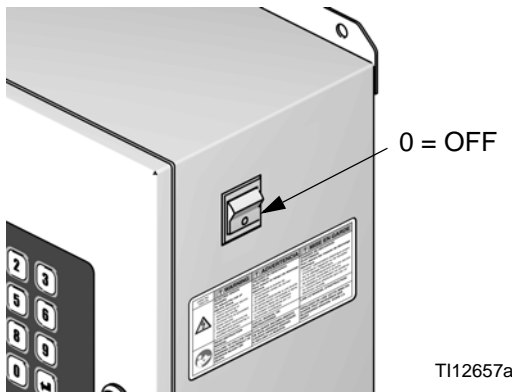

FIG. 2: Power Off
2. Shut off ProMix 2KS power (0 position). See FIG. 2.